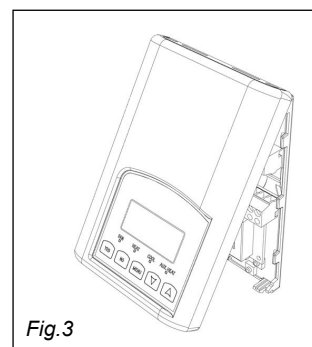

Fig.3
- Open up by pulling on the bottom side of thermostat. (Fig. 3)
- Hinge new PIR thermostat cover into position (fig. 3).